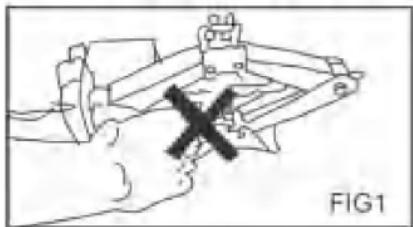

FIG1
Please pay special attention to the following position which may nip your finger.(FIG1)
3. Choose the proper socket to the wrench's shaft. (FIG.1)
(FIG.1)